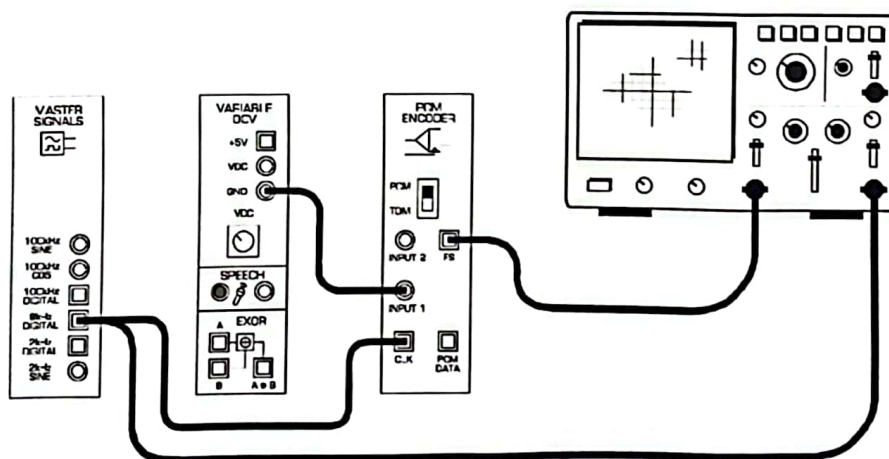
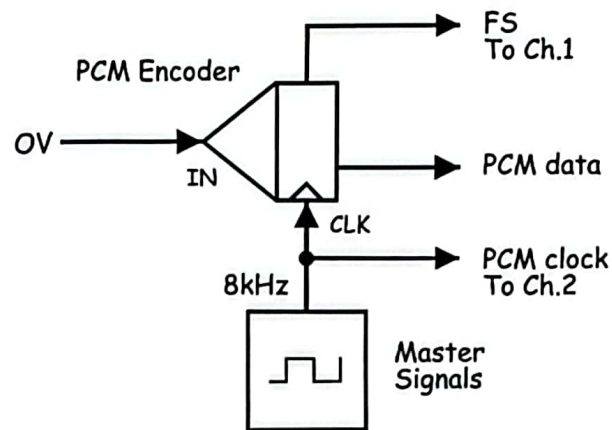

Figure 2
Figure 3
4. Connect the set-up shown in Figure 2 below.
The set-up in Figure 2 can be represented by the block diagram in Figure 3 below. The PCM Encoder module is clocked by the Master Signals module's *8kHz DIGITAL* output. Its analog input is connected to 0V DC.